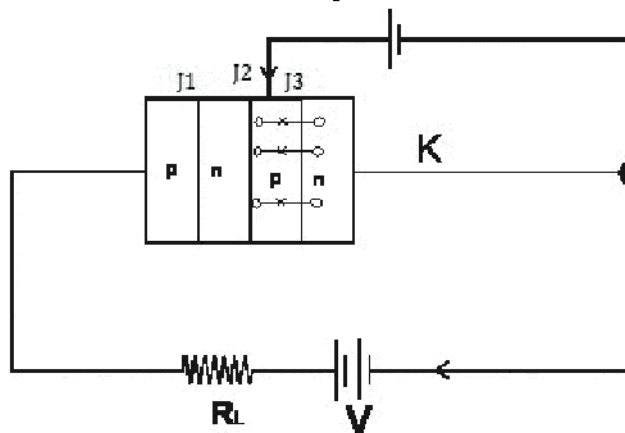

Fig.6.8 SCR with gate voltage applied
- (2) When the gate is positive with respect to cathode: The SCR can be made to conduct heavily at smaller applied voltage by applying a small positive potential to the gate as shown in fig. 6.8. Now the junction J_3 is forward biased and junction J_2 is reverse biased. The electrons from N-type material start moving across junction J_3 towards left whereas holes from P-type towards right. Consequently, the electrons from the junction J_3 are attracted across junction J_2 and gate current starts flowing. As soon as the gate current flows, the anode current increases. The increased anode current in turn makes more electrons available at the junction J_2 . This process continues and in an extremely small time, junction J_2 breaks down and SCR starts conducting